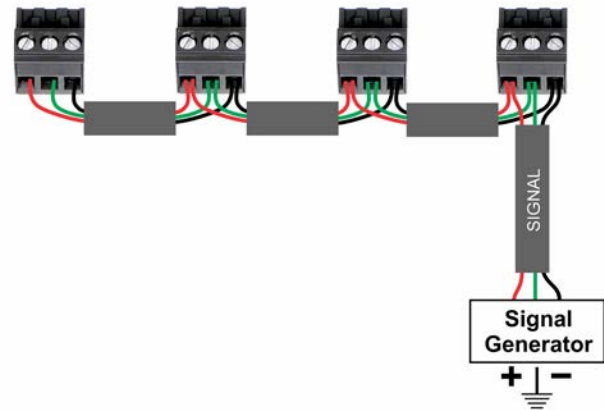

Figure 5.23– Parallel Balanced Input Wiring Using Removable Barrier Block Connectors (Four in Parallel Shown)
- Use the wires included in the Parallel Wiring Kit and the Removable Barrier Block connectors that ship with each amplifier to create a paralleled input signal wire as shown in **Figure 5.23**. Wire one input connector for each amplifier in your system. You can use balanced wiring (shown), or you can build the wire for unbalanced input. If using unbalanced wiring, switch the INPUT SELECT switch located on the SIM-BNC input card on each amplifier to the LEFT position (unbalanced setting).